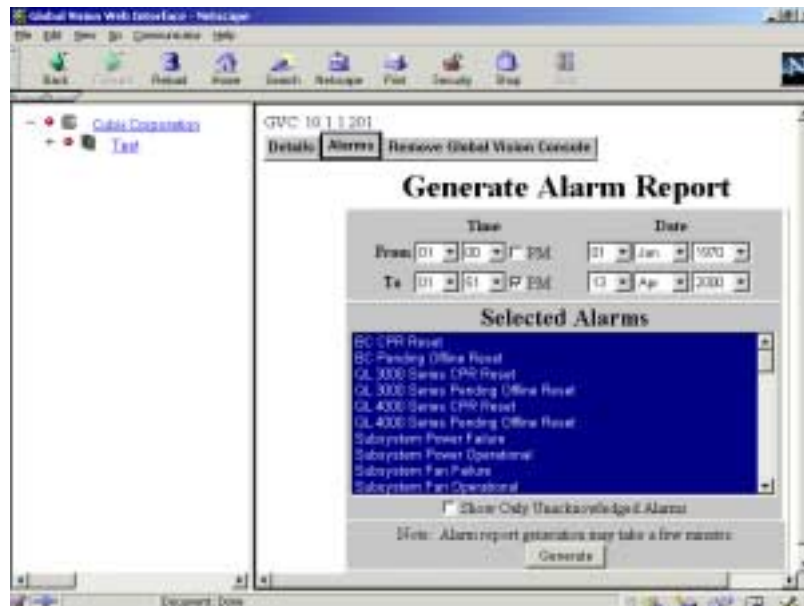

Figure138 – GV Web, GlobalVision Console level – Alarm Report Screen
- ◆ **Alarms** will provide a form for specifying which alarms you want reported. You must enter the times and dates you want reported, and select from the list the alarms you want reported. See Figure 138.